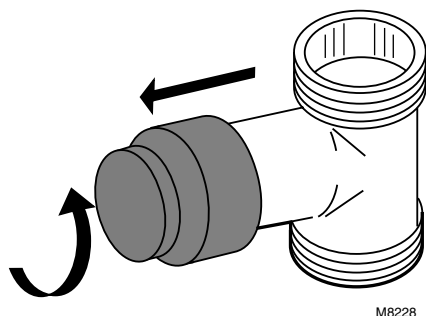
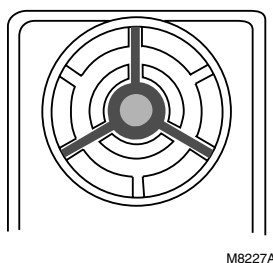
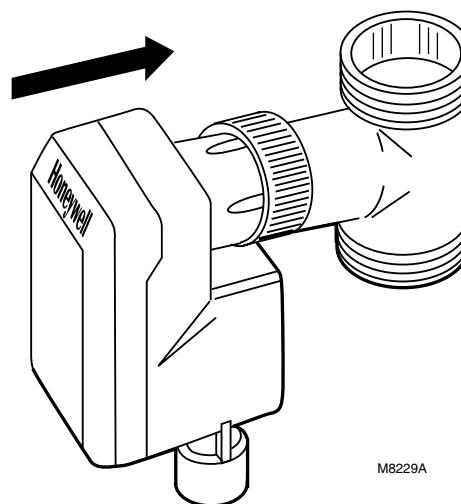

Fig. 3A. Removing protective cover from valve.
Fig. 3B. Valve position indicator.
Fig. 3C. Screwing actuator on valve.
To mount the M6410A or M7410F Small IRC Electric Linear Valve Actuator, refer to Fig. 3A through 3C. Fig. 3B shows the valve position indicator.
- ① Remove the protective cover from the valve (Fig. 3A).
- ② Make sure the actuator is in the (factory-supplied) OPEN position.
- ③ Screw the actuator connector onto the body of the valve (Fig. 3C).